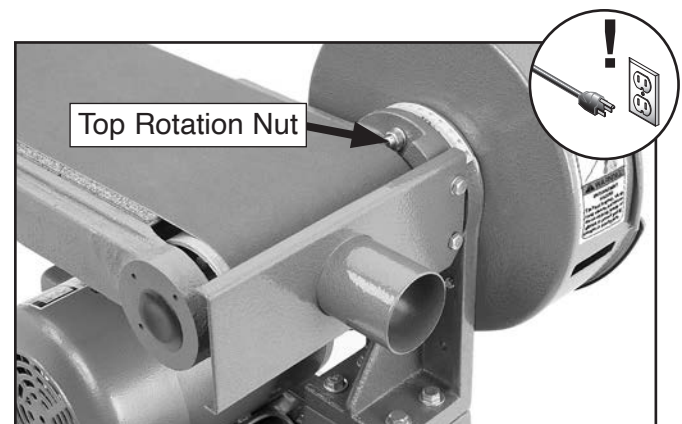

Figure 61. Location of top rotation lock nut.
5. Loosen the sanding frame rotation lock nuts (behind the sanding disc cover) as shown in Figures 61–62.